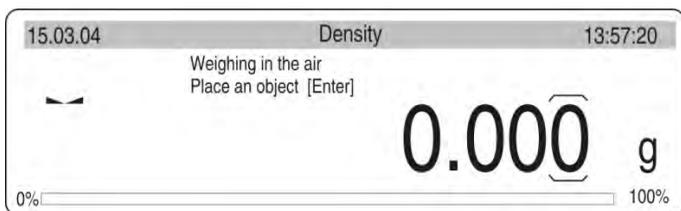
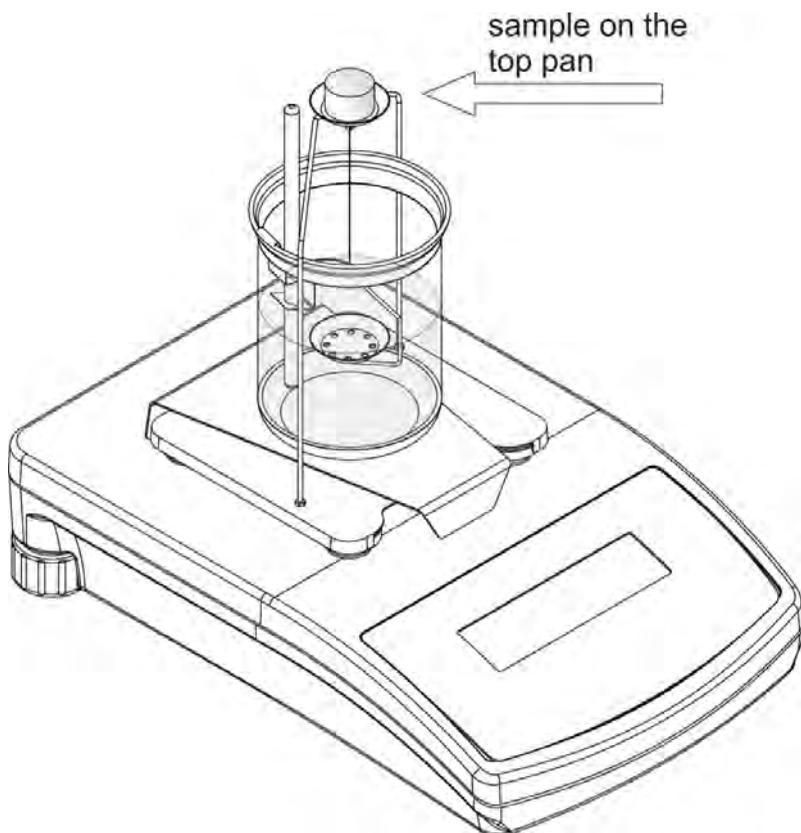

Fig 8. Density of solids – the first step in the procedure
Fig 9. Weighing in the air – balance elevation
- Measurements start has to be carried out in accordance with description on fig 8 or fig. 9.